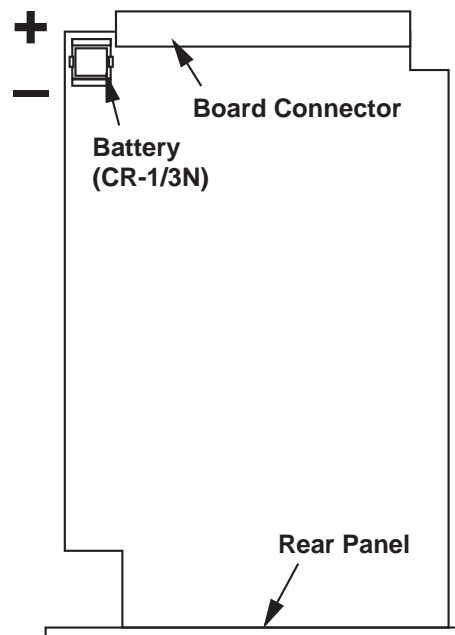

Fig. 15 Location of Battery
6. Locate the battery in the corner of the top board (see Fig. 15). It is held in by two plastic clips. NOTE THE POLARITY OF THE BATTERY TERMINALS, AS SHOWN IN THE FIGURE.